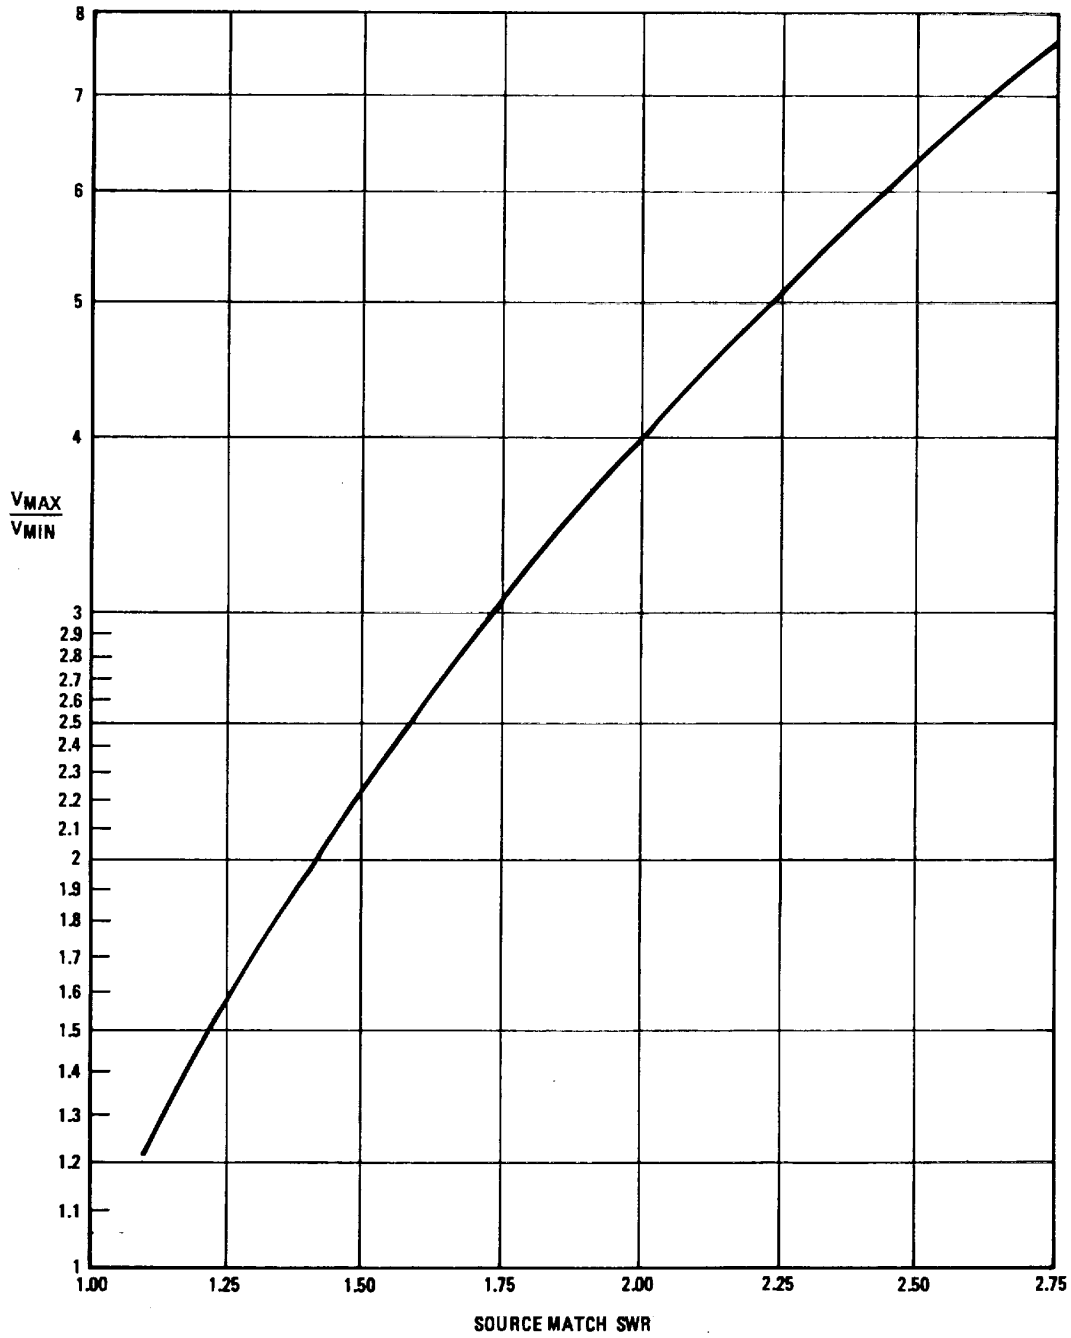

Figure 4-11. Graph to Convert Oscilloscope Trace to Source Match SWR
f. Convert V_{MAX}/V_{MIN} ratio noted in step e into source match SWR, using Figure 4-11. The SWR value should be <2.0:1.